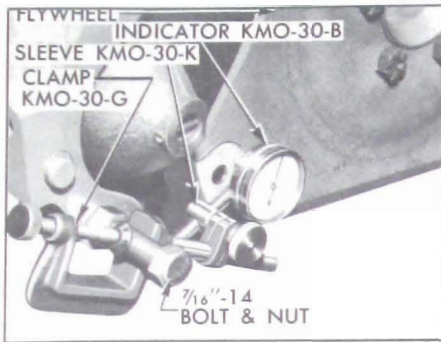

Figure 2-45—Checking Run-Out of Flywheel
4. Mount Dial Indicator as shown in Figure 2-45, so that stem of indicator bears against the flat surface of flywheel at inner side of the bolt holes.